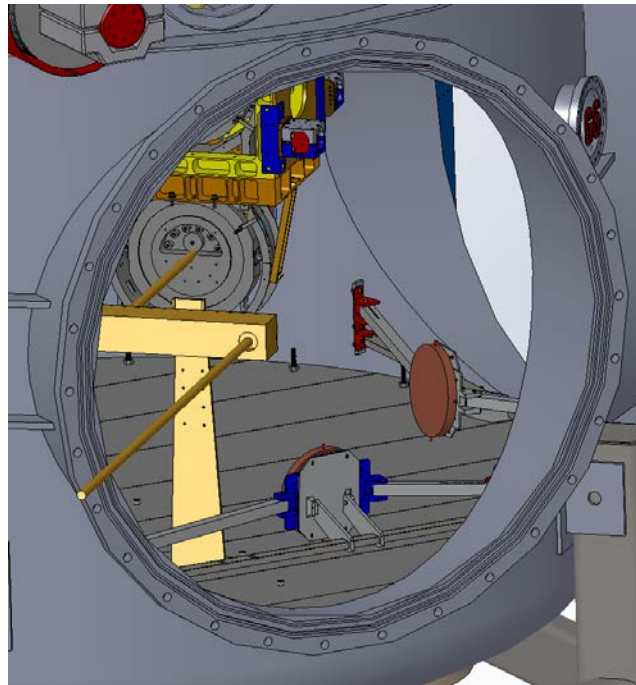

Figure 7: Conceptual drawing showing aligned LTHP
- Align the LTHP as done previously in step 6.3.4 so that the input beam is collinear with the Total Station (see Figure 7).